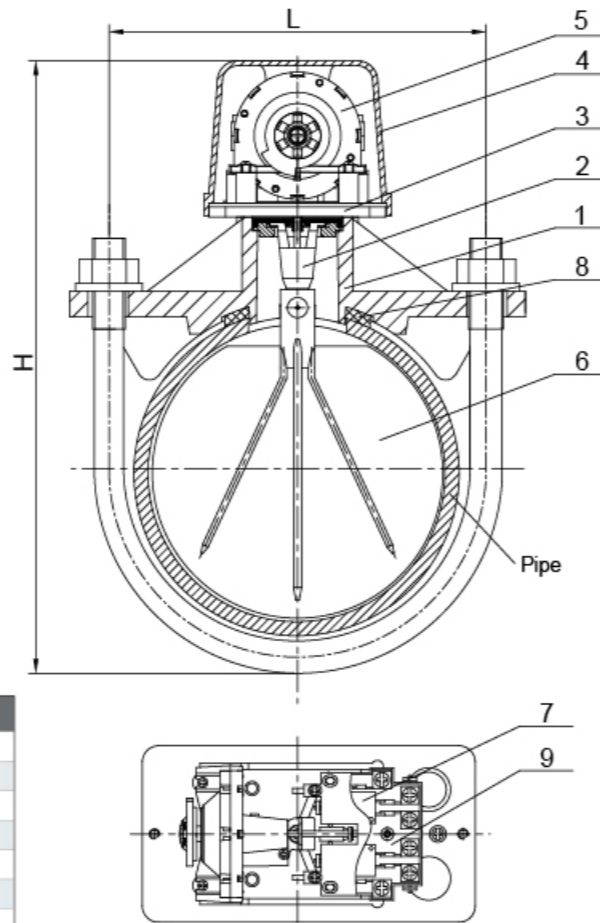

Figure 1 Outline Drawing
1. The main outline drawing is shown in Figure 1 Outline Drawing.